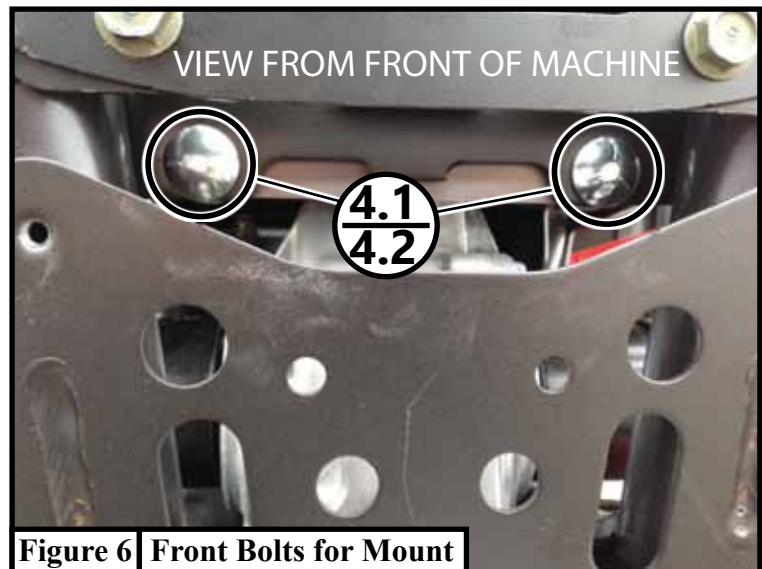

Figure 6 Front Bolts for Mount
6. Fasten the winch mount (1) to the front frame rail using the 3/8" carriage bolts (4.1) and 3/8" nuts (4.2) as shown in **Figure 6** with nuts to the inside so the carriage bolts sit in the square cutout. Some machines may not have the square cutouts to hold a carriage bolt. Use hardware (4.3 and 4.2) in these situations. Use the 3/8" (4.1) carriage bolts and 3/8" nuts (4.2) as shown in **Figure 7** with the bolt head inside the frame channel, for the rear holes.
8. If there is space between the frame and winch mount, refer to page 4 and use the washer and bolts. Depending on where the winch sits (too close on front or back side), you may need to place washers in front or behind the winch mount (1) to move the winch and mount forward or back to provide the clearance needed.